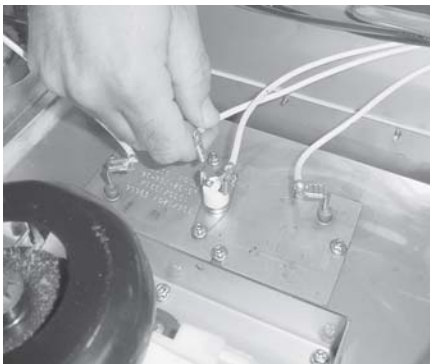

Figure 3-25
2. Remove wires from high limit. Figure 3-25.